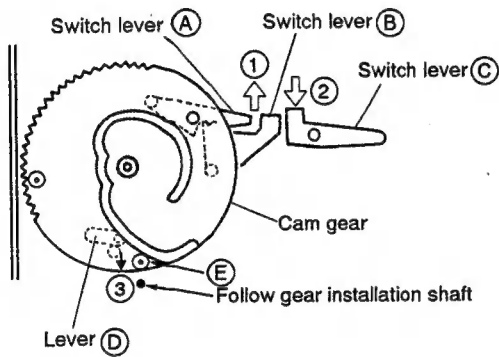

Fig. 11
- ② Move switch levers **A** and **B** (Fig.11) in the direction of arrow ① (SW is ON) , switch lever **C** in the direction of arrow ② and lever **D** in the direction of arrow ③ .
- ② Install the cam gear when the cam gear comes to the position as shown in Fig. 11.